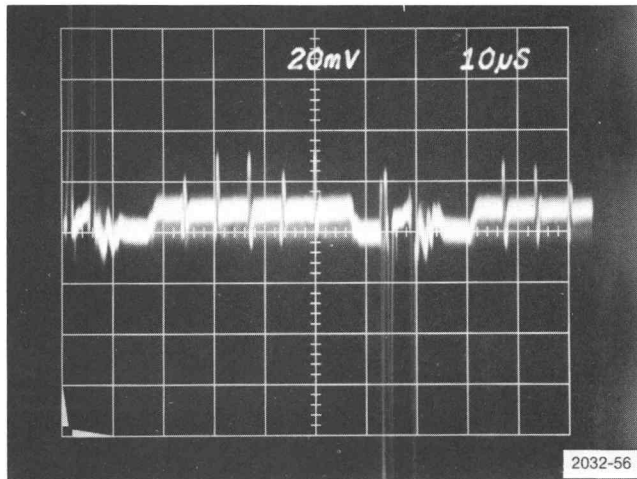
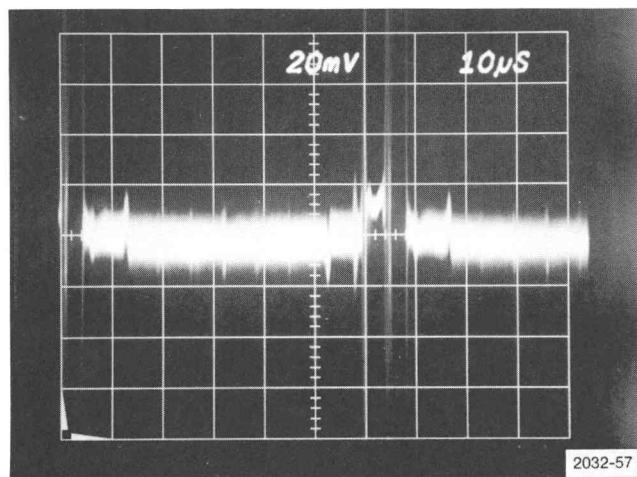

Fig. 4-26. 1420—Differential Phase check.
Fig. 4-27. 1421, 1422—Differential Phase check.
c. Check—Tilt caused by changing luminance levels should not exceed 2% of the value noted in step 23c (2% is equal to 1° of differential phase). See Fig. 4-26 or Fig. 4-27.